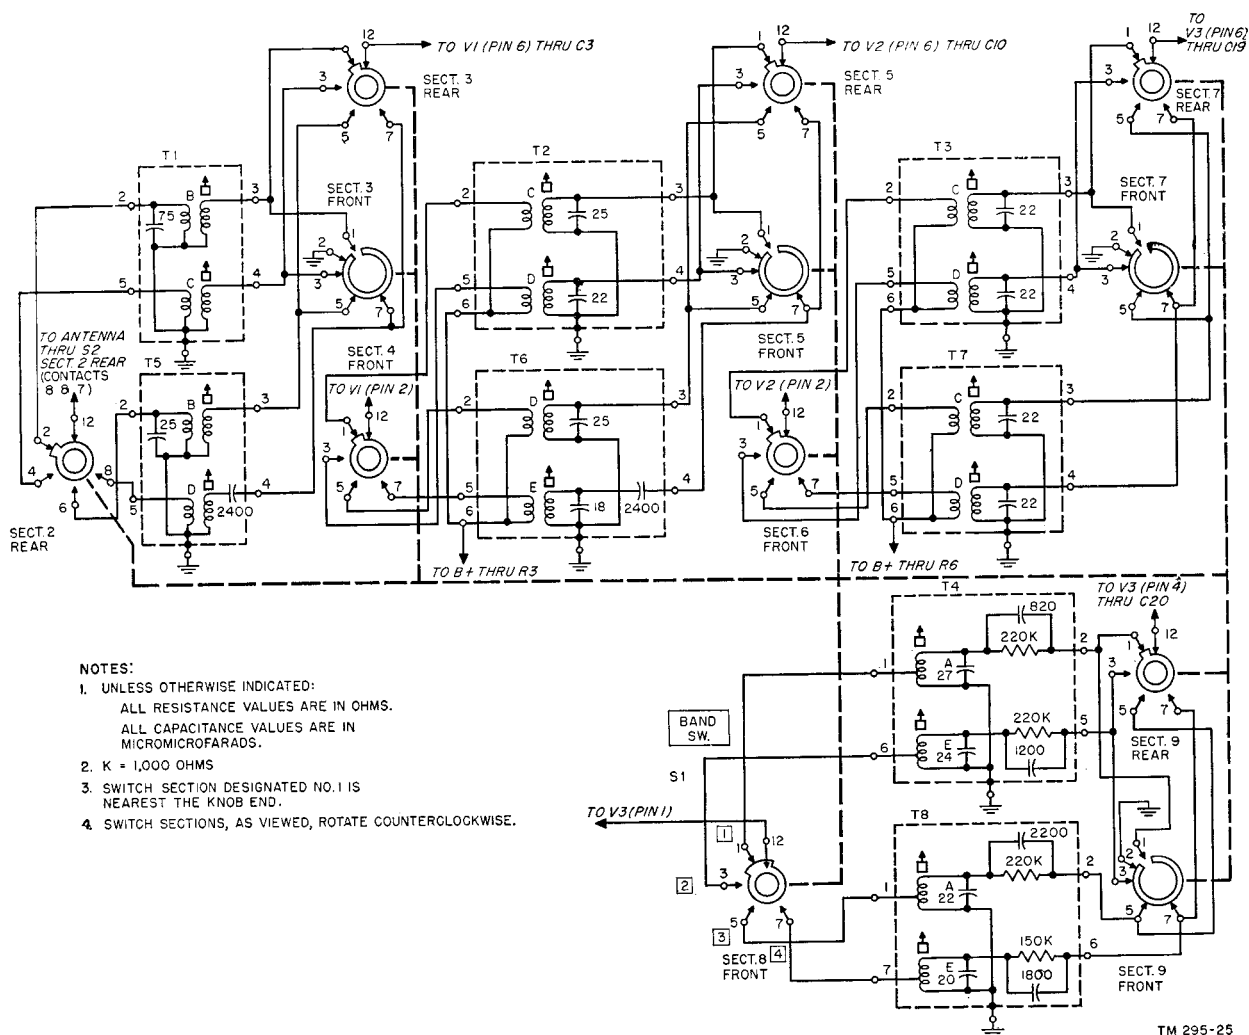

Figure 24. Radio Receiver R-174/URR, simplified control circuit of BAND SW. switch.
(figs. 24 and 43)
b. The secondary winding of transformer T1 is tuned by one section of the MANUAL-PRE-SET TUNING capacitor, C1A, and ANT. TRIMMER C2 (fig. 43). Section 3, rear, of the BAND SW. switch connects the capacitors across the winding. The tuned circuit is coupled to the grid (pin 6) of V1 through capacitor C3. Resistor R1 and avc circuit provide a d-c return for the grid circuit. Capacitor C11 is a part of the avc filter circuit. While band 1 is in use, another section of the BAND SW. switch (section 3, front) grounds the secondaries of all antenna coils not in use—in this case, winding C of T1 and B and D windings of T5 (fig. 24).
e. When BAND SW. switch S1 is placed in the band 2 position, the following circuit changes are effected to allow coverage of the 2.7- to 5-mc band (fig. 24).
- (1) Section 2, rear, and section 3, rear, select the C windings of T1 in place of the B windings as the antenna coil.
- (2) Section 3, front, removes the ground from the C winding of T1, and places a ground on the B winding.
- (3) Section 4 selects the D section of T2, in place of the C section, as the plate load for V1.
f. When BAND SW. switch is placed in band 3 position (fig. 24), coverage of the 5- to 9.5-mc band is provided through circuit changes similar to those detailed for band 2. When switch S1 is set to band 3, sections 2, rear, and 4, front, select the B windings of T5 and the D windings of T6 as antenna coil and V1 plate load, respectively. Section 3, front, of the switch grounds the unused secondaries of the antenna transformers. A 25- μ f capacitor is in shunt with the primary of the antenna coil.
g. When BAND SW. switch is in band 4 position (fig. 24), windings D of T5 and winding E of T6 are selected to provide coverage of the 9.5- to 18-mc band. A 2,400- μ f capacitor (in series with the secondary of T5) is used as a paddler to provide proper tracking.
a. The signals amplified by V1 are coupled inductively to the second r-f amplifier (fig. 43, par. 52d). On band 1, the signals developed across the secondary of winding C of T2 are supplied to the grid (pin 6) of tube V2 through section 5, rear, of S1 and capacitor C10. The switch also shunts tuning capacitor C1B across the transformer. The tuning circuit of this band consists of a 25- μ f fixed capacitor, connected internally in the transformer assembly, MANUAL-PRESET TUNING capacitor C1B, and trimmer C9. Resistor R4 and the avc circuit provide a d-c return for the grid circuit. While band 1 is in use, section 5, front, of the BAND SW. switch (fig. 24) grounds the secondaries of the first r-f plate coils not in use—in this case, winding D of T2 and windings D and E of T6.
d. When BAND SW. switch S1 is placed in the band 2 position (fig. 24), the following circuit changes are effected to allow coverage of the 2.7- to 5-mc band.
- (1) Section 5, rear, selects the D winding of T2 in place of the C winding as the grid r-f coil. In parallel with the D winding is a 22- μ f fixed tuning capacitor.
- (3) Section 6, front, selects the D winding of T3 in place of the C winding as the plate load for V2.
e. When BAND SW. switch is placed in band 3 position (fig. 24), coverage of the 5- to 9.5-mc band is provided through circuit changes similar to those detailed for band 2. Sections 5, rear, and 6, front, select the D winding of T6 and the C winding of T7 as the V2 grid coil and plate coil, respectively. A 25- μ f capacitor acts as the fixed tuned capacitor in parallel with the D winding of T6. Section 5, front, grounds the unused r-f coils.
f. When BAND SW. switch is set to band 4 position (fig. 24) windings E of T6 (paralleled by an 18- μ f fixed tuned capacitor) and D of T7 are selected to provide coverage of the 9.5- to 18-mc band. Section 5, front, grounds the unused coils. A 2,400- μ f capacitor (connected in series with secondary winding E of T6) is the padder to provide proper tracking.
(figs. 24 and 25)
b. Section 8, front, of BAND SW. switch S1 connects the tap of the A winding to the filament cathode, and section 9, rear, connects the tuned output of the tank across C1D and thence to the grid circuit. The 220K-ohm grid d-c return resistor and the 820- μ f fixed padder capacitor are connected internally in the coil assembly. Resistor R8 and capacitor C20 form the grid-leak bias network for the oscillator. Section 9, front, of BAND SW. switch S1 grounds the unused winding E of T4 and windings A and E of T8 (fig. 24).
d. When BAND SW. switch is placed in band 2, the following circuit changes are effected (fig. 24):
- (1) Section 8, front, removes winding A of T4 from the cathode circuit and connects in winding E of T4.
- (2) Section 9, rear, removes winding A of T4 from the grid circuit and connects in winding E of T4.
- (3) Section 9, front, grounds winding A of T4, and removes the ground from winding E.
e. When BAND SW. switch S1 is placed in band 3 position (fig. 24), circuit changes are provided similar to those detailed for band 2.
f. When BAND SW. switch S1 is placed in band 4 position (fig. 24), winding E of T8 is used, and all other windings are grounded.
a. The incoming signals are coupled inductively to the secondary of winding C of T3 (fig. 25). This winding is tuned by section C1C of the MANUAL-PRESET TUNING capacitor. Section 7, rear, of BAND SW. switch S1 connects the capacitor across the winding. The tuned circuit is coupled to the grid (pin 6) of V3 through capacitor C19. Resistor R7 provides bias voltage and a d-c return for the grid circuit. When BAND SW. switch S1 is in band 1 position, section 7, front (fig. 24), grounds the secondaries of the r-f transformers not in use—in this case, D winding of T3, C and D windings of T7.
d. When BAND SW. switch S1 is in band 2 position, the following circuit changes are effected (fig. 24):
- (1) Section 7, rear, selects the D winding of T3 in place of the C winding.
- (2) Section 7, front, grounds the C winding of T3 and removes the ground from the D winding.
e. In band 3 position of BAND SW. switch S1 (fig. 24), section 7, rear, selects the C winding of T7, and section 7, front, grounds the D winding of T3.
f. In band 4 position of BAND SW. switch S1 (fig. 24), section 7, rear, selects C winding of T7, and section 7, front, grounds D winding of T7.